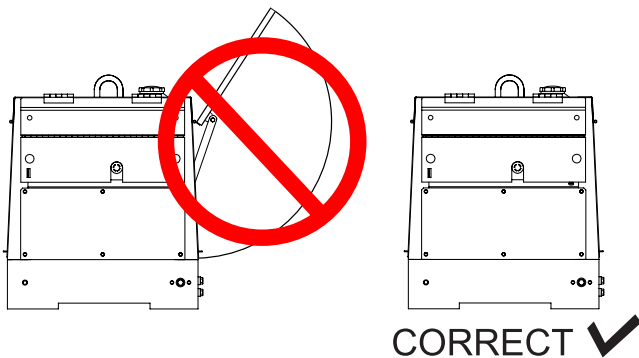

Figure 22. Generator Doors
2. **NEVER** operate the generator with the doors *open* (Figure 22). Operation with the doors open may cause insufficient cooling of the unit, and engine damage may result. Close the doors for normal operation.